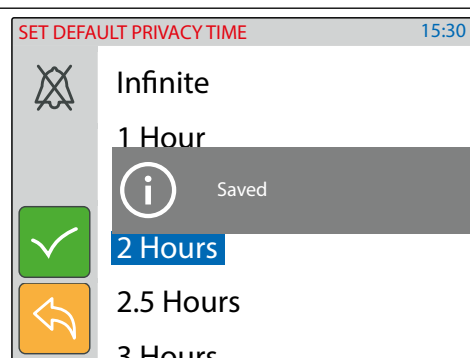

Fig. 8 Save the selected value
- Swipe among the values to select the required then tap on the tick button to confirm the value (**Fig. 8**).
- A notice will inform that the value is saved (**Fig. 8**).